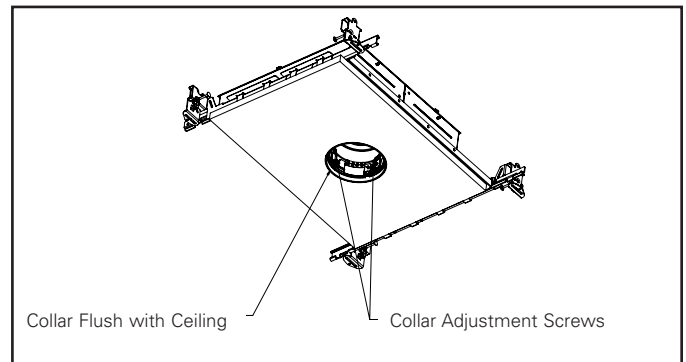

Figure 9.
3. Hanger bar bracket should be adjusted as needed (screws, see figure 9).